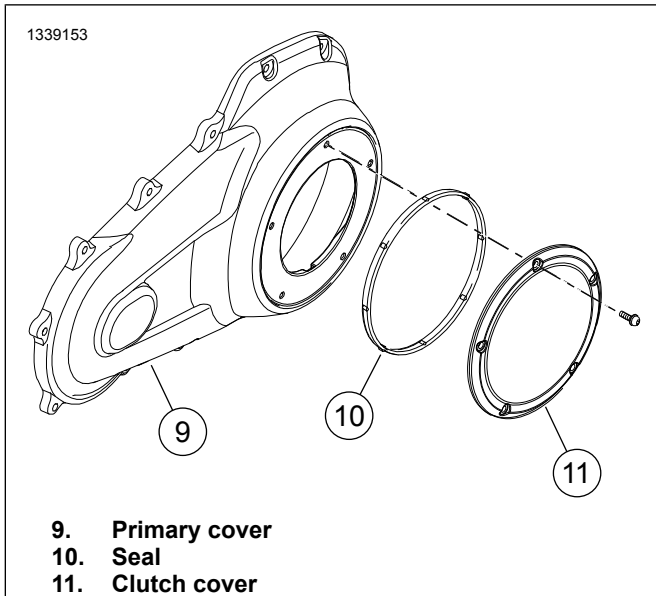

Figure 7. Clutch Cover Seal
- b. See Figure 7. Install **new** seal (10) to clutch cover (11). See service manual.